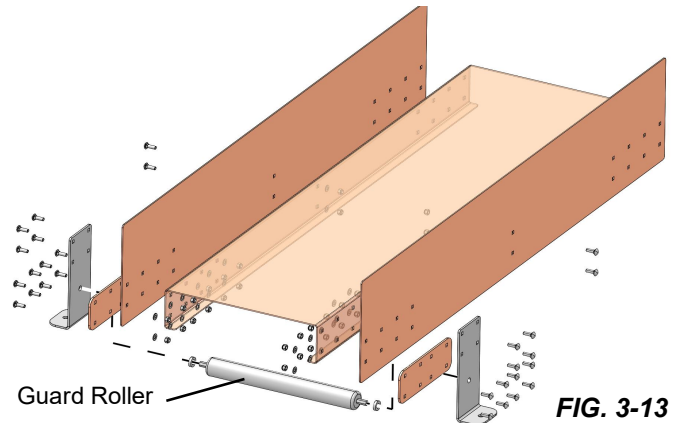

FIG. 3-13
1. Install the conveyor side panels, link plates, feet, and roller for the Middle section as shown in FIG. 3-13.